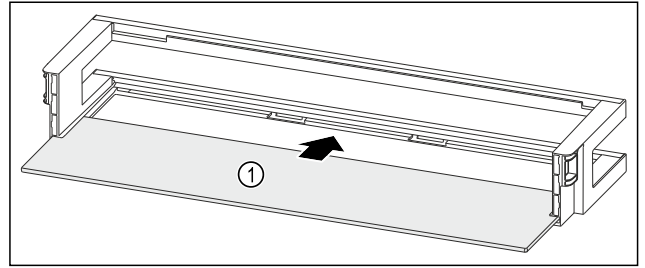

Fig. 50 Door rack with shelf
- Push the shelf Fig. 50 (1) into the side recesses.